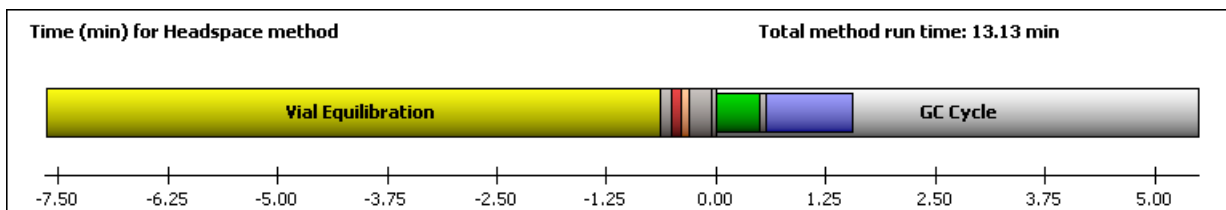

**Figure 21** The method time line
Select **Show method time line** to display the method editor time line (as shown in Figure 21).
- 10 View the time line at the top of each **Method Editor** panel for a graphical display of HS method parameters and GC cycle times for a single vial (Figure 21).